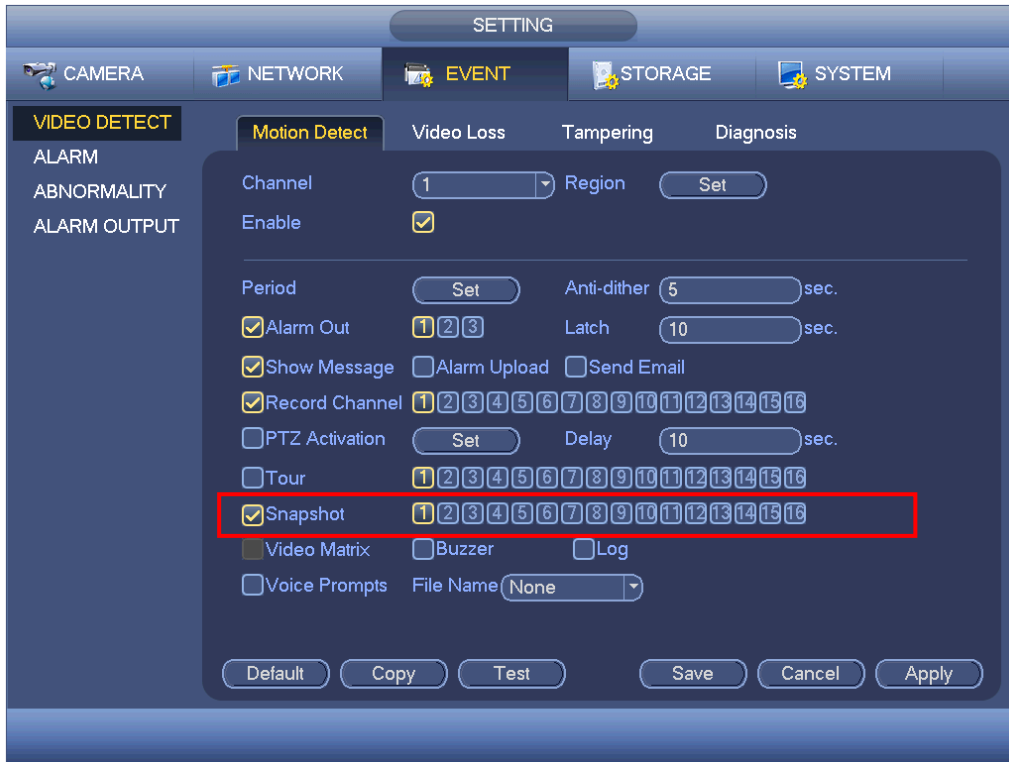
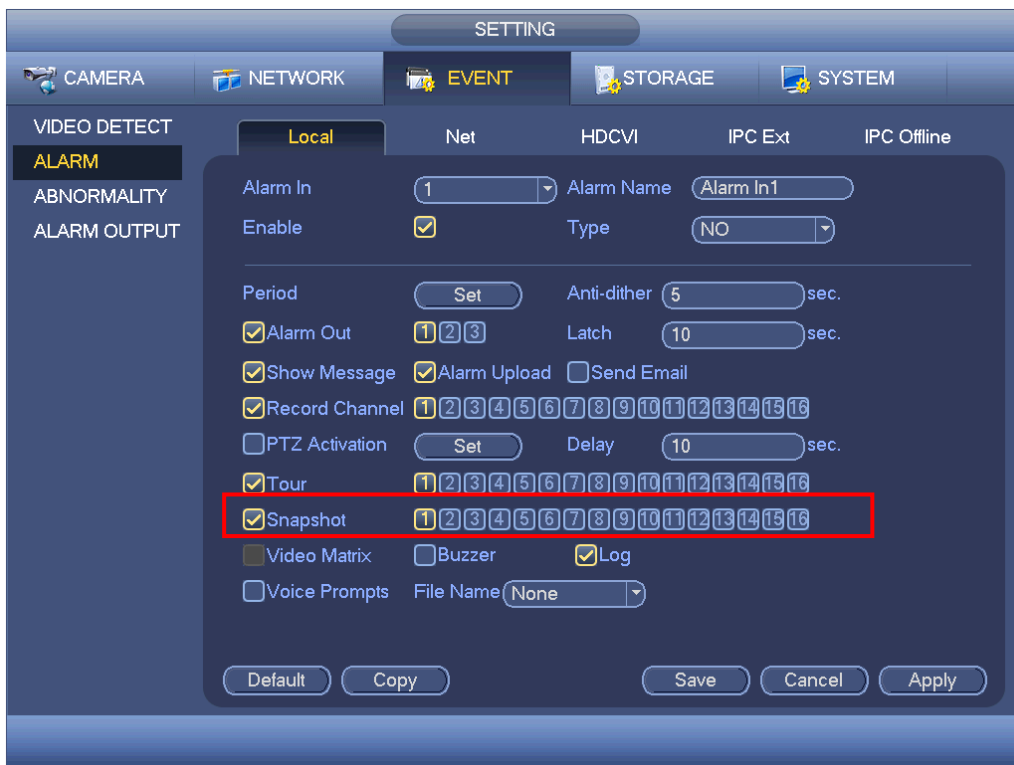

Figure 4-148
Figure 4-149
- In main menu, from Setting->Event->Detect, please enable snapshot function for specified channels (Figure 4-148). Or In main menu, from Setting->Event->Alarm (Figure 4-149) please enable snapshot function for specified channels.